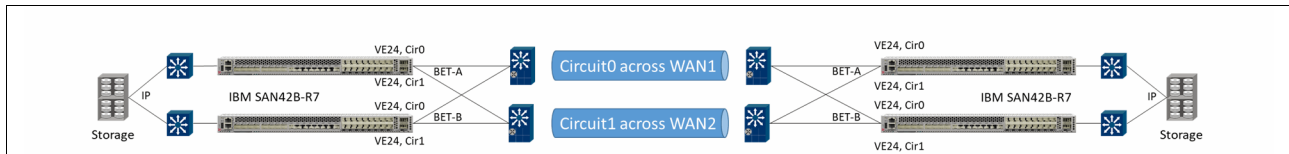

Figure 7-5 : IP Storage LAN connectivity to IP Extension
In the case of L2 deployment, configure the IP storage with the IP Extension Gateway as the next-hop for replication traffic. The IP Extension Gateway is configured on a DP (DP0 or DP1) owning the VE\_Port of the tunnel. The IP Extension Gateways are a LAN side IPIF specific to a DP. The same IP Extension Gateway cannot be configured on more than one DP on an extension platform. An IP Extension Gateway configured on multiple platforms will cause an IP address conflict on the data center network. Based on the next-hop configured on the storage end device, the end device learns the IP Extension Gateway's MAC address through an ARP or Neighbor Discovery (ND) request. See Figure 7-5,
As shown in Figure 7-5 above, the IP storage is connected to the IP Extension LAN side interfaces by a Layer 2 LAN switch. At least one IP Extension Gateway (LAN side IPIF) must be configured to receive the replication traffic on the LAN network. For a Layer 2 architecture, each connected VLAN requires a LAN-side IPIF used as an IP Extension gateway. The LAN side IPIF should have an IP address on the same subnet as the end device and the same VLAN ID as the connected Ethernet network.